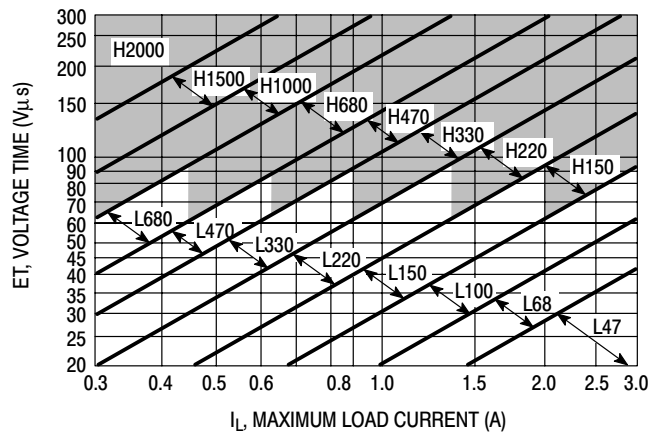

Figure 22. LM2576-ADJ
4. Inductor Selection (L₁) A. Use the following formula to calculate the inductor Volt x microsecond [V x μs] constant: $E \times T = (V_{in} - V_{out}) \frac{V_{out}}{V_{in}} \times \frac{10^6}{F[\text{Hz}]} [\text{V} \times \mu\text{s}]$ B. Match the calculated E x T value with the corresponding number on the vertical axis of the Inductor Value Selection Guide shown in Figure 22. This E x T constant is a measure of the energy handling capability of an inductor and is dependent upon the type of core, the core area, the number of turns, and the duty cycle. C. Next step is to identify the inductance region intersected by the E x T value and the maximum load current value on the horizontal axis shown in Figure 25. D. From the inductor code, identify the inductor value. Then select an appropriate inductor from Table 2. The inductor chosen must be rated for a switching frequency of 52 kHz and for a current rating of 1.15 x I_{Load}. The inductor current rating can also be determined by calculating the inductor peak current: $I_{p(\text{max})} = I_{\text{Load}(\text{max})} + \frac{(V_{in} - V_{out}) t_{on}}{2L}$ where t_{on} is the “on” time of the power switch and $t_{on} = \frac{V_{out}}{V_{in}} \times \frac{1.0}{f_{osc}}$ For additional information about the inductor, see the inductor section in the “External Components” section of this data sheet.	4. Inductor Selection (L₁) A. Calculate E x T [V x μs] constant: $E \times T = (25 - 8.0) \times \frac{8.0}{25} \times \frac{1000}{52} = 80 [\text{V} \times \mu\text{s}]$ B. E x T = 80 [V x μs] C. I_{Load(max)} = 2.5 A Inductance Region = H150 D. Proper inductor value = 150 μH Choose the inductor from Table 2.